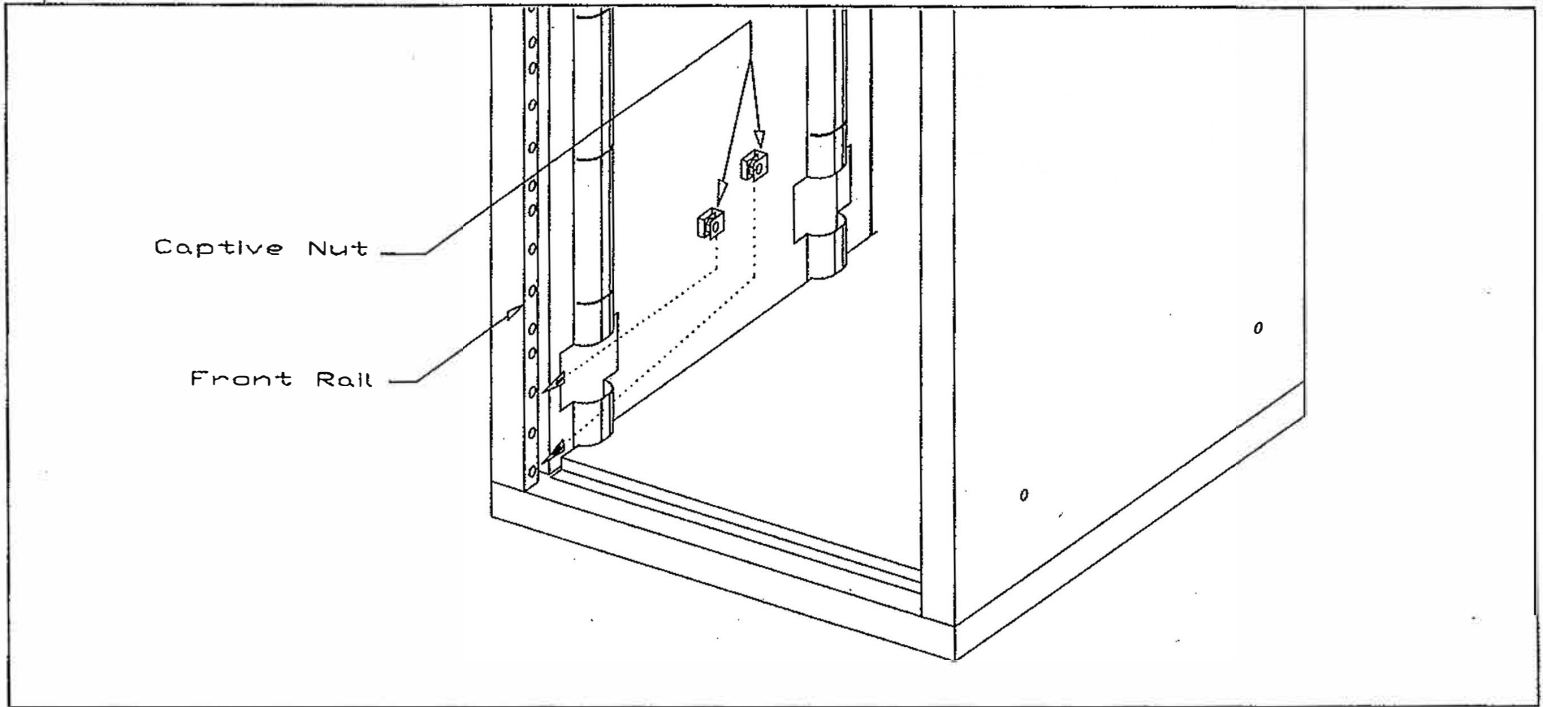

Figure 3
- A) Set the Bottom Door against the Front Rail on the Security Shell to determine the positioning of the Captive Nuts. Next, clip the two Captive Nuts to the Front Rail (See Fig. 3). The positioning of the remaining doors will be determined by which model number was ordered. **Note: Always start from the bottom of the unit and work your way up.**